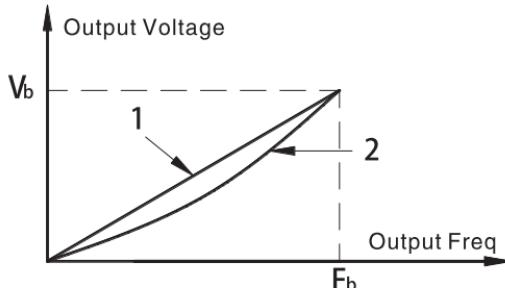

Figure 6-8 V/F curve
**1:Square V/F curve .** It is applicable for variable torque load .such as blower , pump and so on .Please refer to following figure 6-8 .